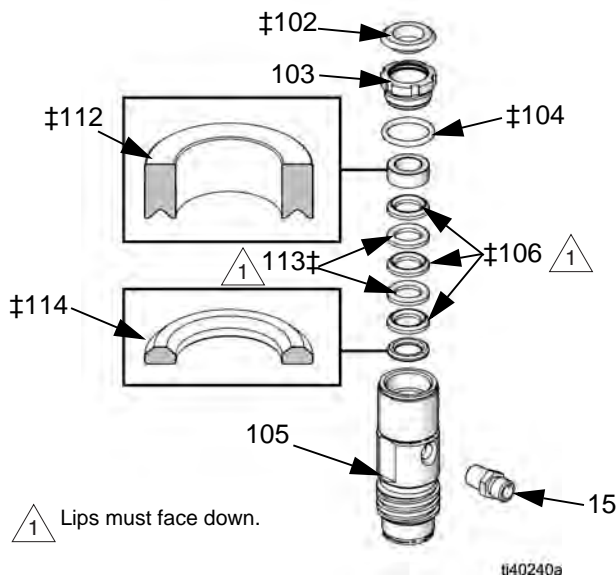

FIG. 9: V-packing throat packings
V-Packing Models: FIG. 9
- Install v-packings in an alternating order. Start with blue UHMWPE (106‡), and then and leather (113‡). See FIG. 9.